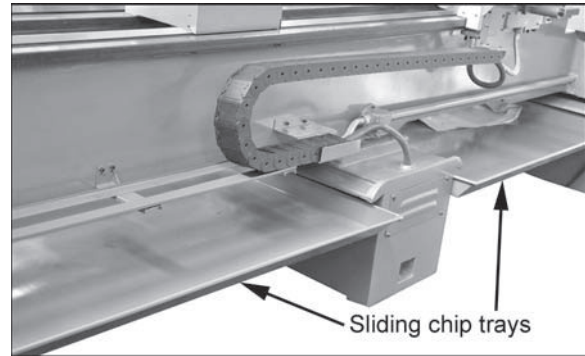

Figure 16 – GH-26120ZH chip trays
**GH-26120ZH:** Pour coolant (approx. four gallons) into one of the chip trays (Figure 16). Or, slide out one of the chip trays and pour directly into the side trough on the center stand.